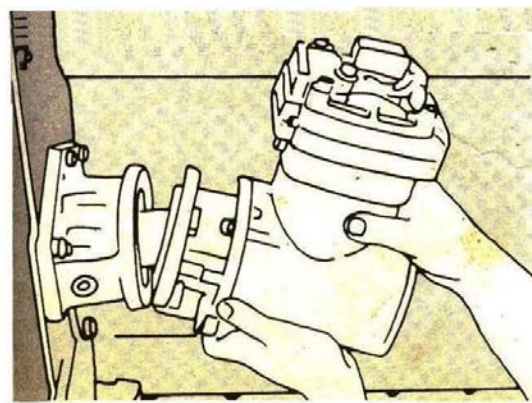

Fig. 14-83, Install the air compressor
2. With a new gasket in position, align the air compressor gear with the splined coupling. Tighten the capscrews. Fig. 14-83.